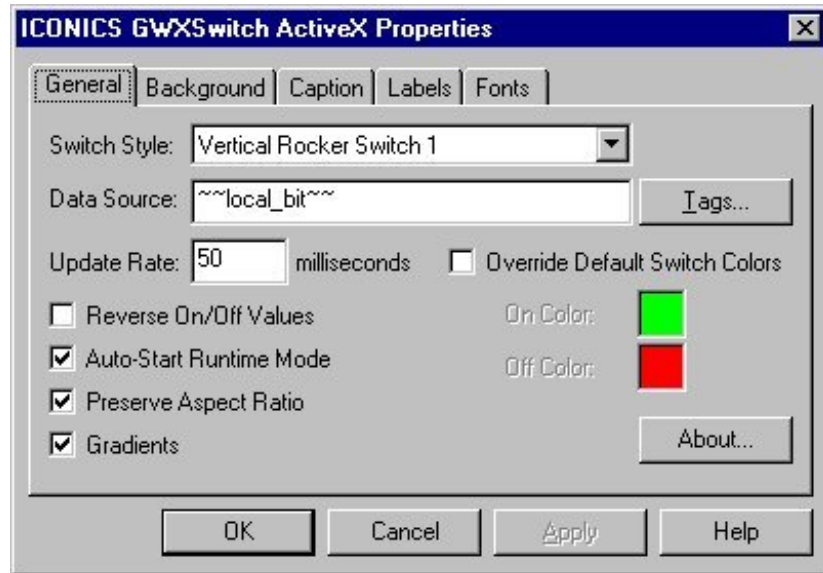

Figure 16-4: GWXSwitch ActiveX Properties Dialog Box: General Tab
1. Double-click on the GWXSwitch ActiveX control. The GWXSwitch ActiveX Properties dialog box appears (Figure 16-4).